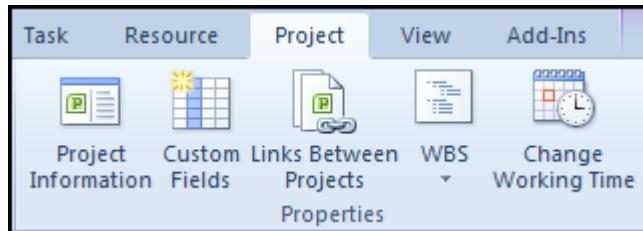

Figure 3-7: Project Information Button
- ii. Click the change working time button to open the change working time dialog box.(figure 3-7)